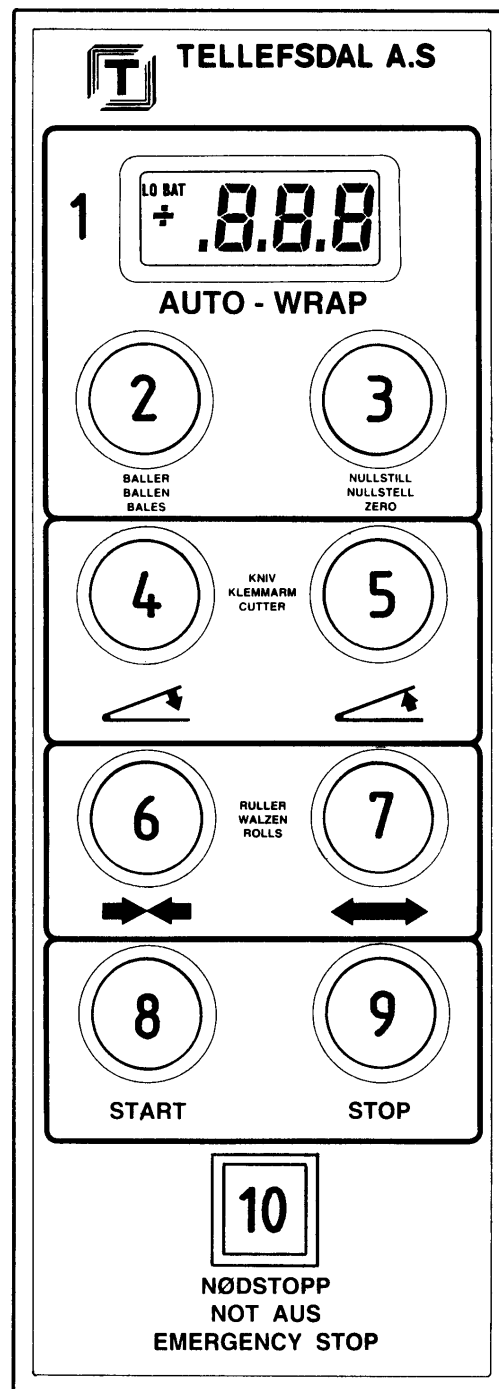

Fig. 7-1
On the front panel of the control box there are 8 press-buttons for the functions, an LCD display and an emergency stop button. We will go through the various functions of the display and the different buttons, and describe the different combinations that are possible. Each particular button is described in the text both in terms of its function, e.g. "START", and in terms of its position as shown in the drawing of the control box (fig. 7.1), e.g. (2).